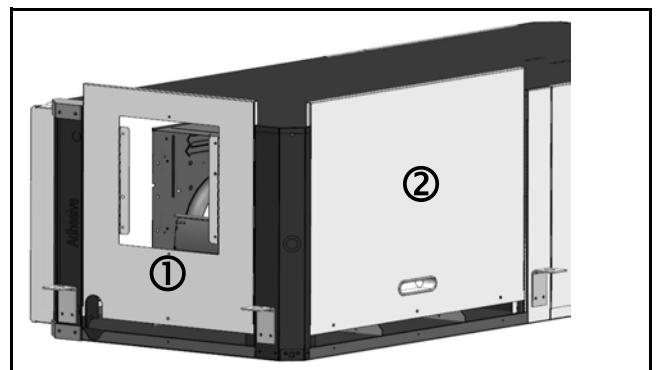

Fig. 24
1. Remove and retain end and side panels. (See Fig. 24.)